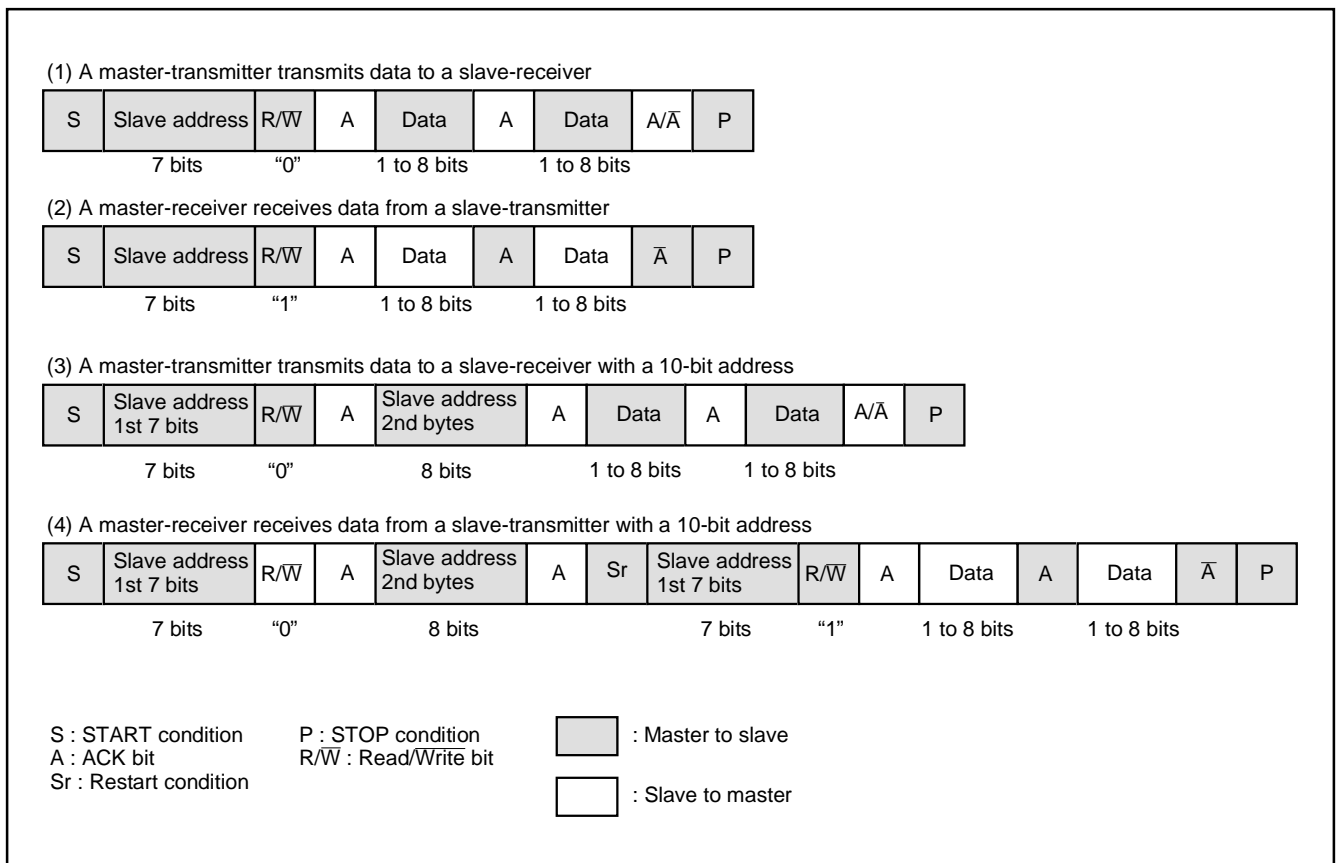

Fig. 77 Address data communication format
① 7-bit addressing format
To adapt the 7-bit addressing format, set the 10BIT SAD bit of the I²C control register (S1D: address 0014₁₆) to "0". The first 7-bit address data transmitted from the master is compared with the high-order 7-bit slave address stored in the I²C slave address register. At the time of this comparison, address comparison of the RWB bit of the I²C slave address register is not performed. For the data transmission format when the 7-bit addressing format is selected, refer to Figure 77, (1) and (2).
② 10-bit addressing format
parison, an address comparison between the RWB bit of the I²C slave address register and the $R\bar{W}$ bit which is the last bit of the address data transmitted from the master is made. In the 10-bit addressing mode, the RWB bit which is the last bit of the address data not only specifies the direction of communication for control data, but also is processed as an address data bit. When the first-byte address data agree with the slave address, the AAS bit of the I²C status register (S1: address 0013₁₆) is set to "1." After the second-byte address data is stored into the I²C data shift register (S0: address 0011₁₆), perform an address comparison between the second-byte data and the slave address by software. When the address data of the 2 bytes agree with the slave address, set the RWB bit of the I²C slave address register to "1" by software. This processing can make the 7-bit slave address and $R\bar{W}$ data agree, which are received after a RESTART condition is detected, with the value of the I²C slave address register. For the data transmission format when the 10-bit addressing format is selected, refer to Figure 77, (3) and (4).